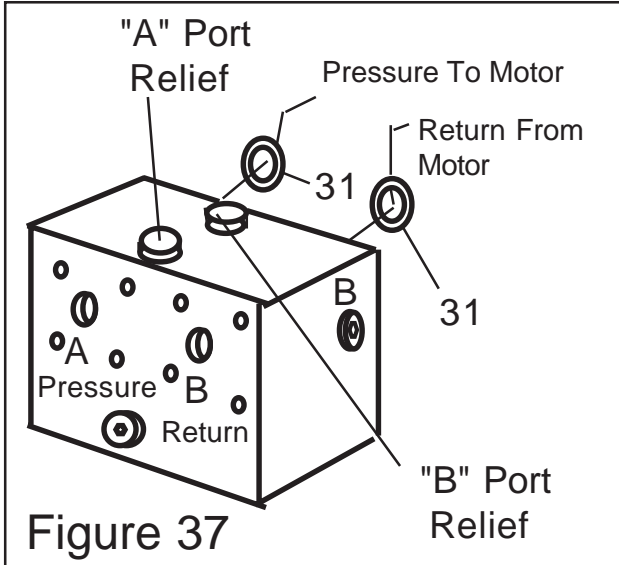

Figure 37
18. Install Relief Manifold. It would not have been required to remove the Relief Manifold (item 28) to disassemble the motor, it could have been left attached to the Barrel Housing Assembly (item 1) . If it was removed, inspect the O-Rings (item 31) and replace if necessary. The reliefs (item 29 & 30) would not have had to be removed, but if they were make certain to replace them the same way they were removed, there is a Relief Valve Seal Kit (See item 28) available as repair parts. (See Figure 37)